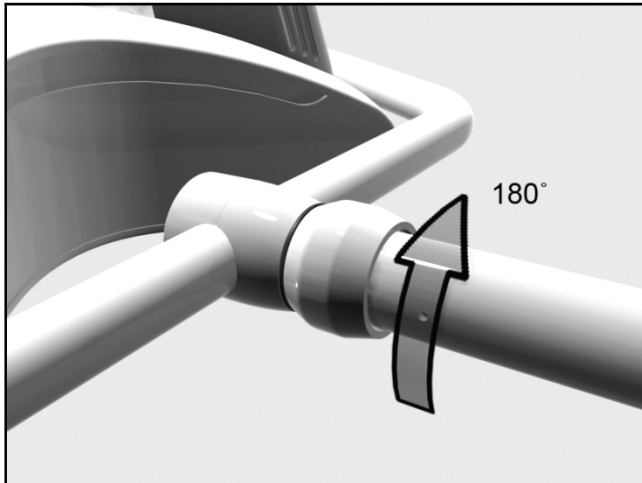

Figure 5
- Rotate the collar (c) 180 degrees as shown in figure 5.